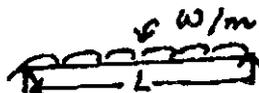

Fig. 2
5. For the beam shown in Fig. 2 what is maximum slope and deflection.